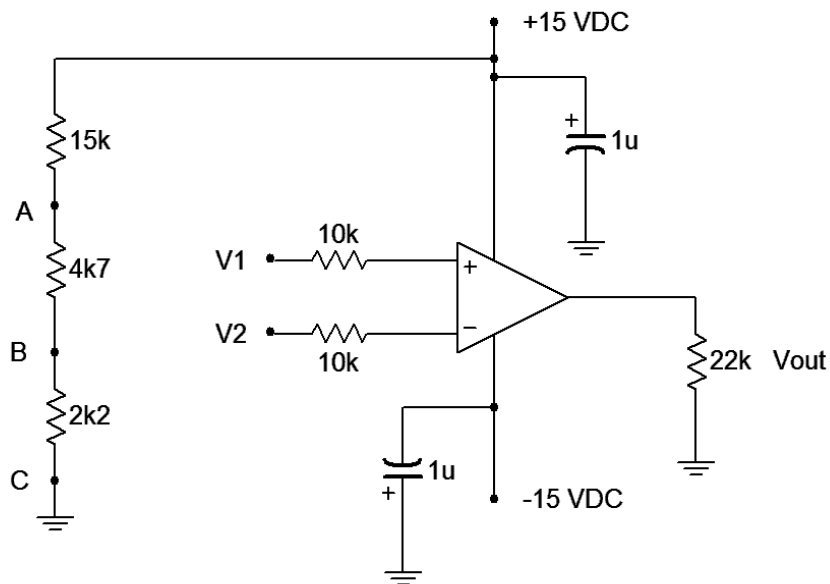

Figure 1
2. Assemble the circuit of Figure 1.
8. Build the circuit of Figure 1 in Multisim and run a Transient Analysis echoing steps 4 through 7. Compare the results to the waveforms generated experimentally.